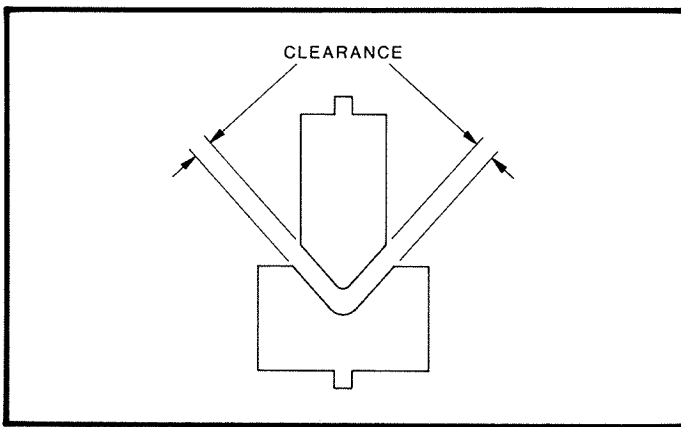

FIGURE 61
9. Again adjust the ram upward to obtain clearance at the slopes of the dies. This clearance should be equal to the thickness of the material to be formed. See Figure 61. Adjust the alignment of filler block until the clearance is alike. Tighten the filler block (or lower die) to the bed. Check the alignment at both ends of the dies with feeler gages or strips of metal of proper thickness. Realign if necessary.